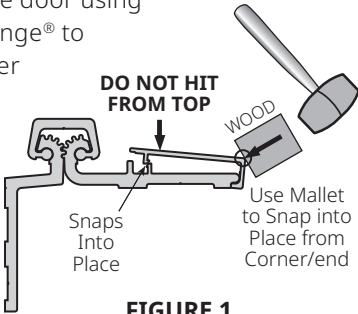

FIGURE 1
5. Install the six (6) #12-24 x 3/4" self drill/tapping screws in the six (6) 7/32" holes located in the door leaf portion of the hinge.
8. Open the door. Enlarge the 1/4" holes on the inside face of the door using a 3/8" dia. drill. Finish attaching door leaf portion of PemkoHinge® to the face of the door using the four (4) thru-bolts and shoulder bolts. Thru-bolts attach from inside face; shoulder bolts attach from the outside of face.
9. To complete the installation, secure the cover by hooking the edge away from hinge gears under the door leaf and then snap the other edge over using a rubber mallet on far side, working from top to bottom. Adjust so top of cover is flush with top of hinge (See **Figure 1**).